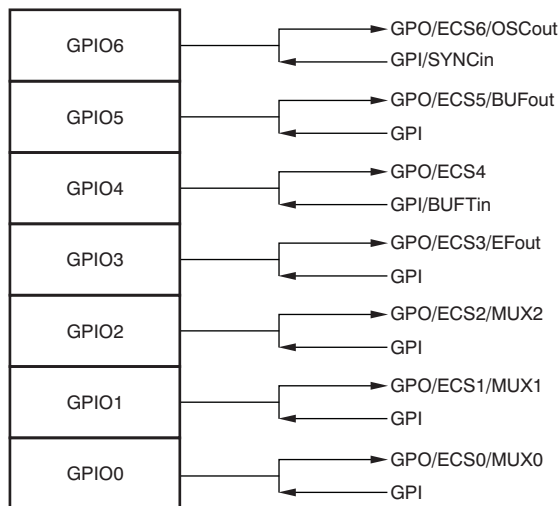

Figure 54. Special Function to Pin Assignment Reference
- (1) Blank register bits are ignored and undefined.
- (2) Registers 13 to 15 are for test purposes; read-only.
- (3) Power-on reset values are SftwrRst values.
- (4) Details for GPIO pin assignments are shown in Figure 54.
As shown in Figure 54, the PGA280 has seven multi-function pins labeled GPIO0 through GPIO6. These pins can function as general purpose input-output (GPIO) pins either to read a digital input or to output a digital signal as an interrupt or control. GPIO functions are controlled through Register 5 and Register 8.